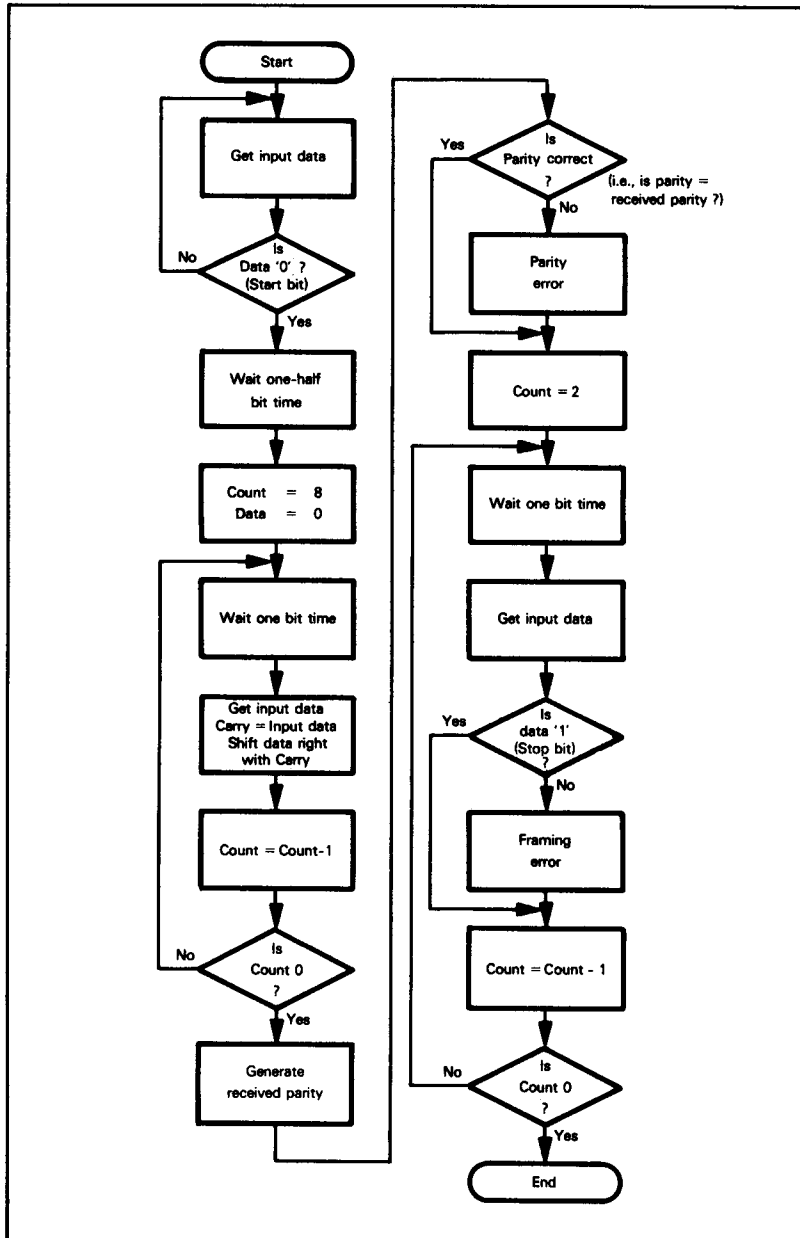

Figure 11-27. Flowchart for Receive Procedure
Receive (flowcharted in Figure 11-27):
**Task:** Fetch data from a teletypewriter through bit 7 of a PIA data port and place the data in memory location 0040. For procedure, see Figure 11-27.